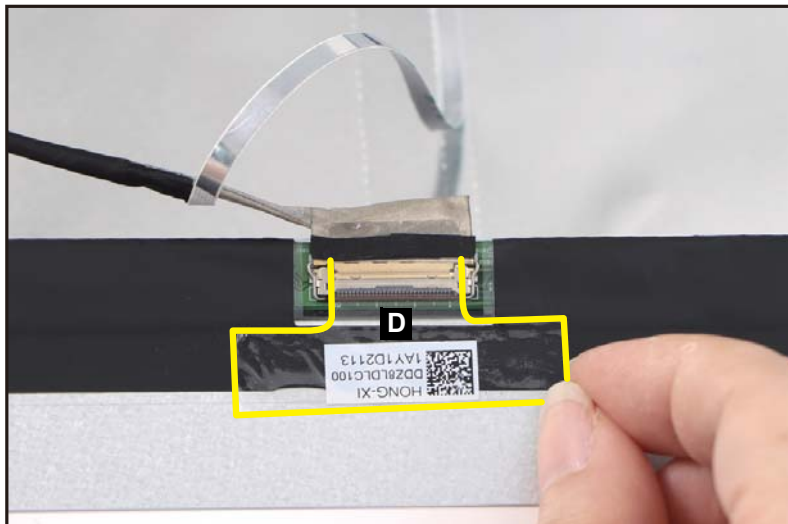

Figure 1-47. LCD Panel Removal
3. Carefully turn the LCD panel over so that the display panel is facing down on a flat surface. Then detach the mylar tape (D) securing the LCD cable to the LCD panel (Figure 1-47).